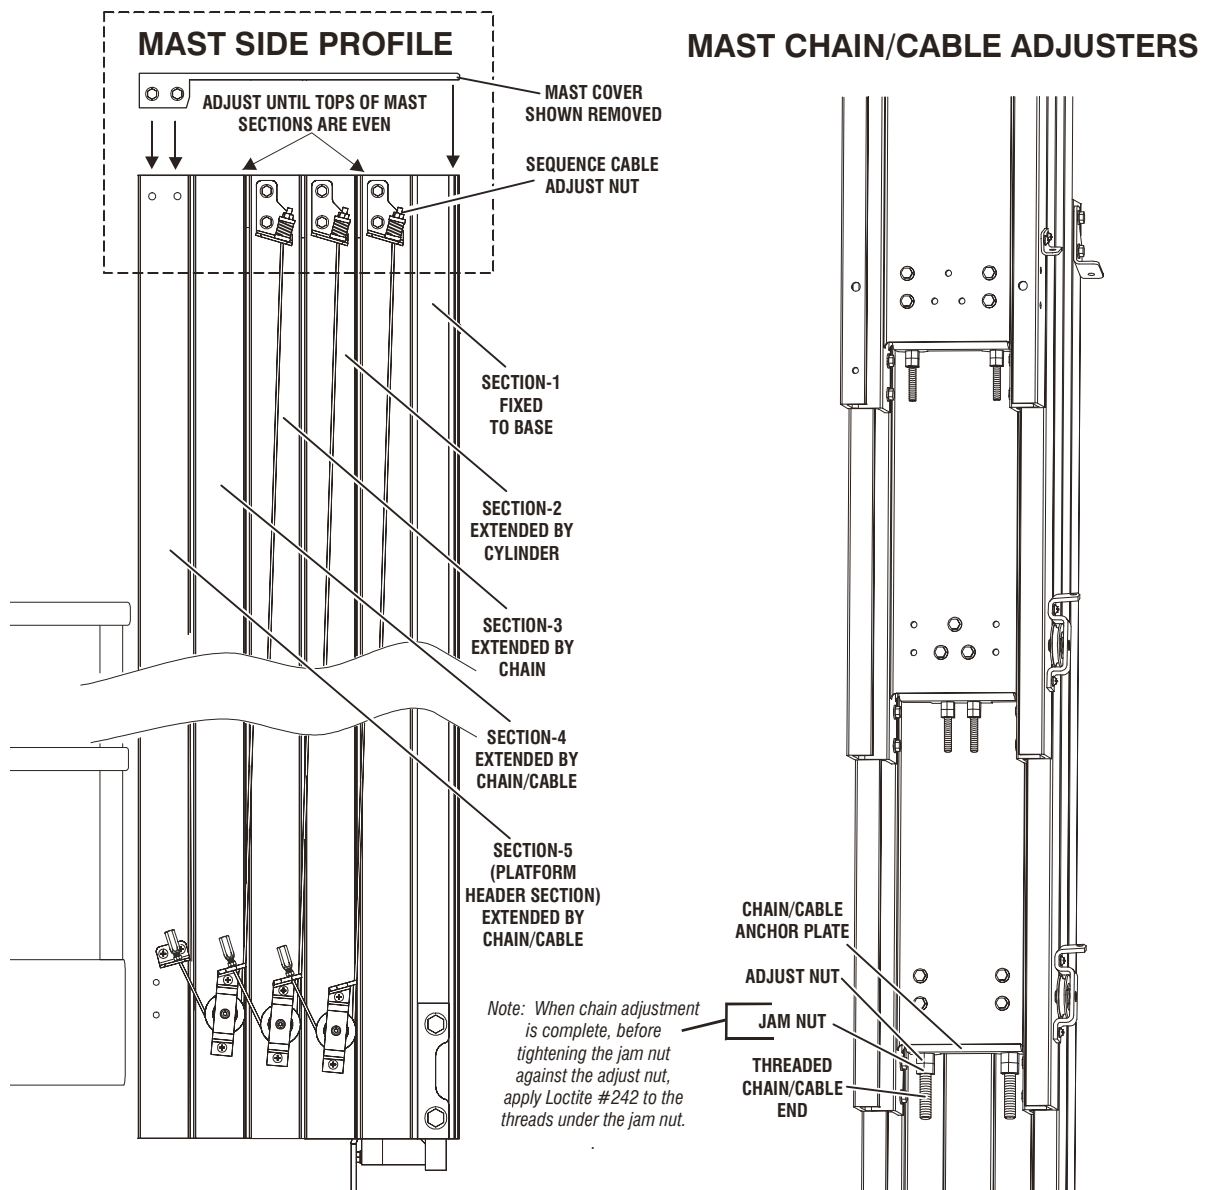

Figure 2-20. Mast Chain/Cable/Sequence Cable Adjustment Components.
2. Then with no load in the platform check the side profile of the top of the mast for the amount of adjustment necessary to make the mast sections even for mast sections-3 and up. (See Figure 2-20.)
4. Elevate the platform until the chain/cable anchor adjust nuts are accessible at the front and bottom of each mast section (*See Figure 2-20.*).
7. Retract the mast all the way and check if the top of the mast sections appear as shown in Figure 2-20.
8. Repeat steps (1) through (7) for remaining mast sections.
1. Be certain the mast is completely retracted and at the bottom of travel. Check the mast "Side Profile" at the top of the mast as shown in Figure 2-20., adjust mast sections to proper height if necessary.